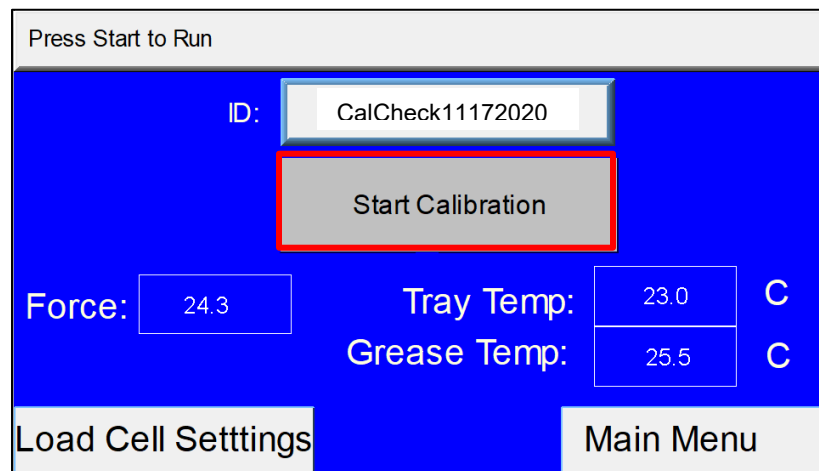

Figure 6 Calibration Screen
2. Enter the Calibration Screen (shown below in Figure 6) from Navigation Menu by pressing the “Calibration” button on the touch screen. To return to the Navigation Menu at any time press the “Menu” button at the bottom left corner. See Navigation Map in